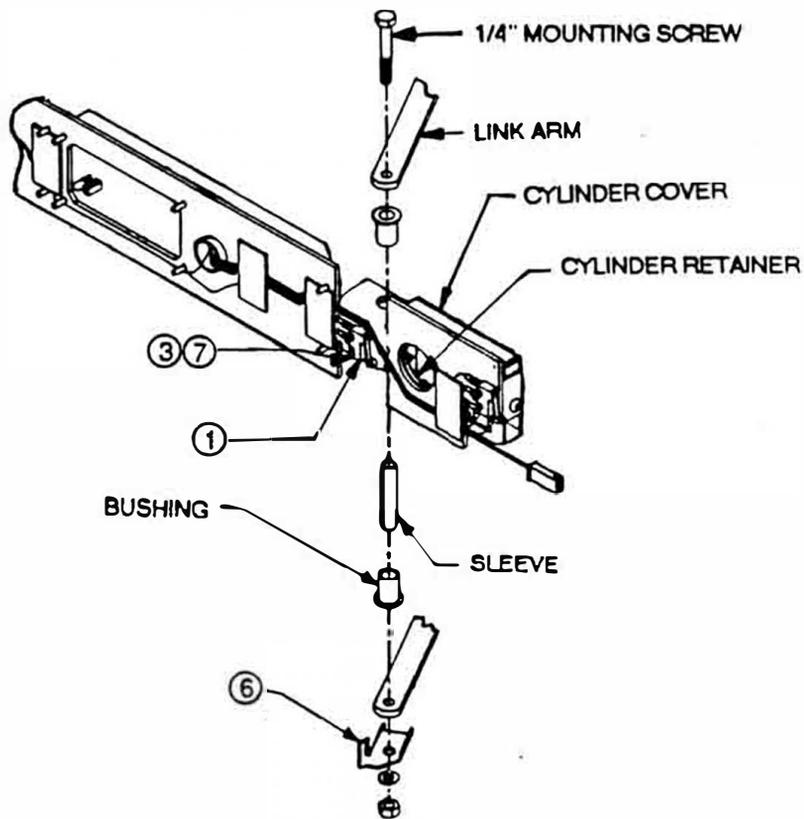

Figure 2: Alarm Accessory Kit Assembly (units manufactured after 4/21/1997)
9. Attach the new switch (Item 1) to the alarm pad base by placing two flat washers (Item 7) between the pad base and the switch, and secure with the two #2-56 x .38 thread-forming screws (Item 3) in the location shown in Figure 2.
Note: Figure 2 shows an alarmed unit and is oriented with the key cylinder toward the right side of the unit. If key cylinder is to the left, the figure will be upside down.
10. Loosen and remove 1/4" hardware where alarm subassembly attaches to link arms per Figure 2.